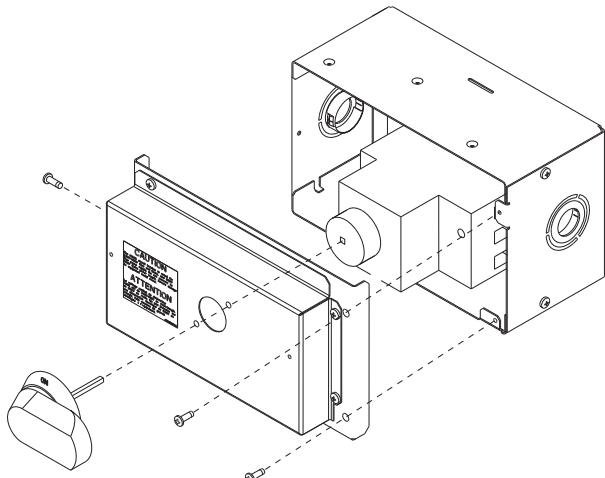

Fig. 31 – HACR Handle and Shaft Assembly
2. Remove (3) cap head screws that secure the HACR enclosure — (2) on the face of the cover and (1) on the left side cover. See Fig. 31.
5. Insert the shaft all the way with the cross pin on the top of the shaft in the horizontal position. See Fig. 31.
9. Secure the handle to the painted cover with (2) screws and lock washers supplied.
10. Engaging the shaft into the handle socket, re-install (3) hex screws on the HACR enclosure.